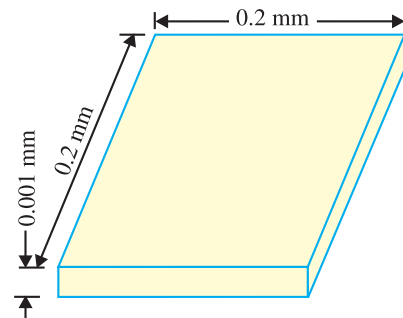

Fig. 23.1
- (ii) The size of an *IC* is extremely small. In fact, ICs are so small that you normally need a microscope to see the connections between the components. Fig. 23.1 shows a typical semi-conductor chip having dimensions $0.2\text{ mm} \times 0.2\text{ mm} \times 0.001\text{ mm}$. It is possible to produce circuits containing many transistors, diodes, resistors etc. on the surface of this small chip.